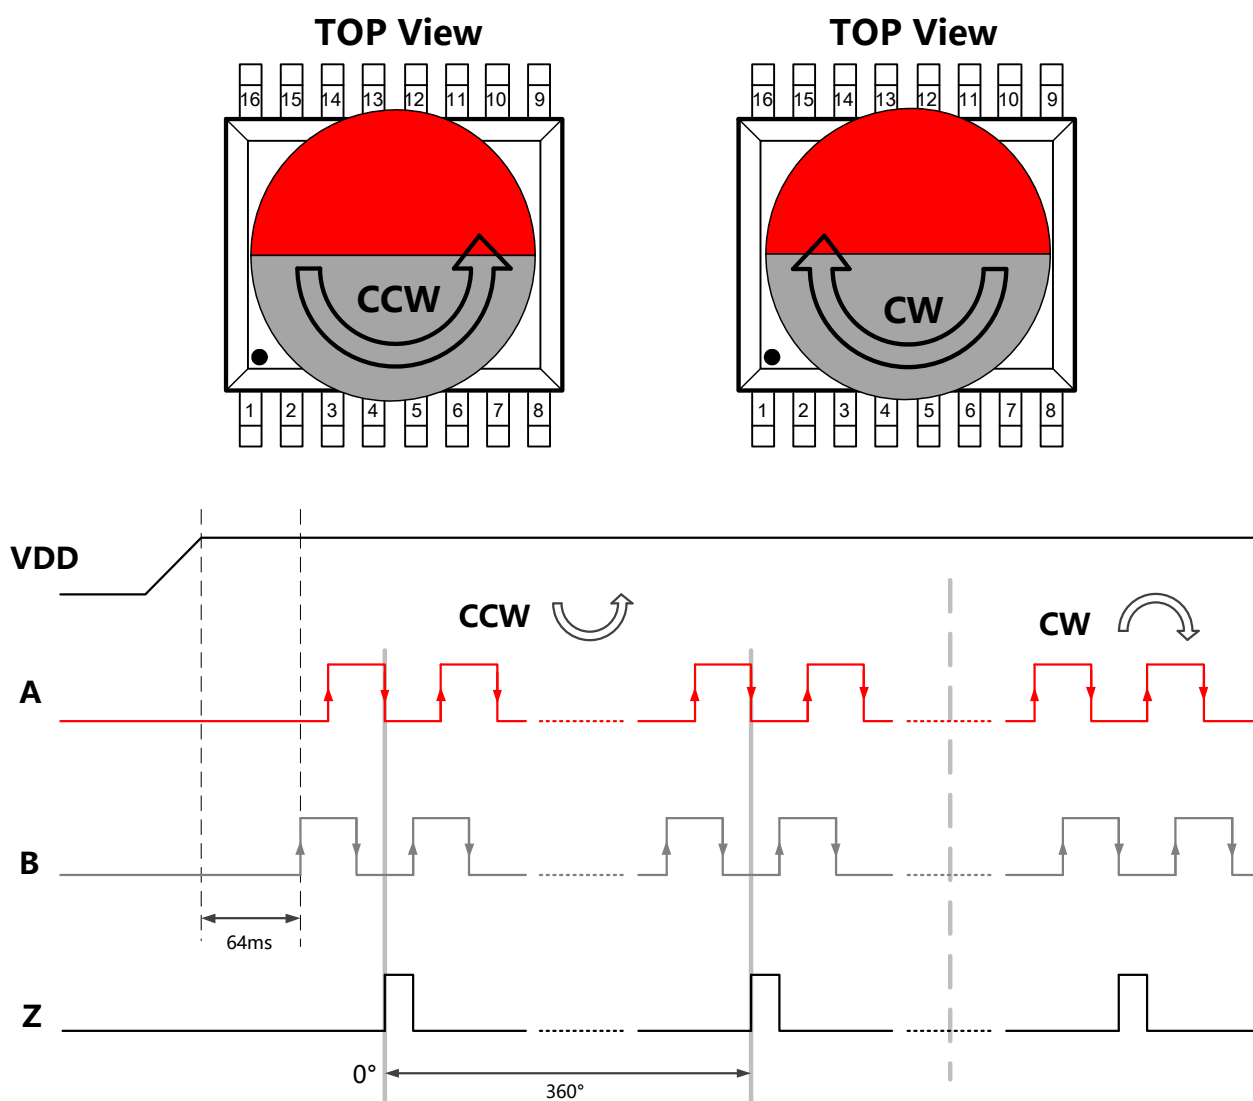

Figure 7: ABZ output with VDD power on
As shown in Figure 7, when the magnet rotates counter-clock-wise (CCW), output B leads output A by 1/4 cycle, when the magnet rotates clock-wise (CW), output A leads output B by 1/4 cycle (or 1 LSB). Output Z indicates the zero position of the magnet. After chip power-on, the ABZ output is blocked for 64ms to guarantee proper output.